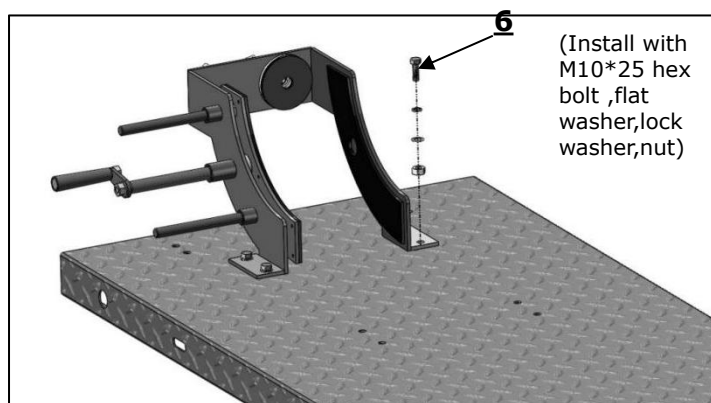

Fig.13
2.Lifting the motorcycle lift to a suitable height, install the wheel vise as to below picture. **(See Fig 13)**